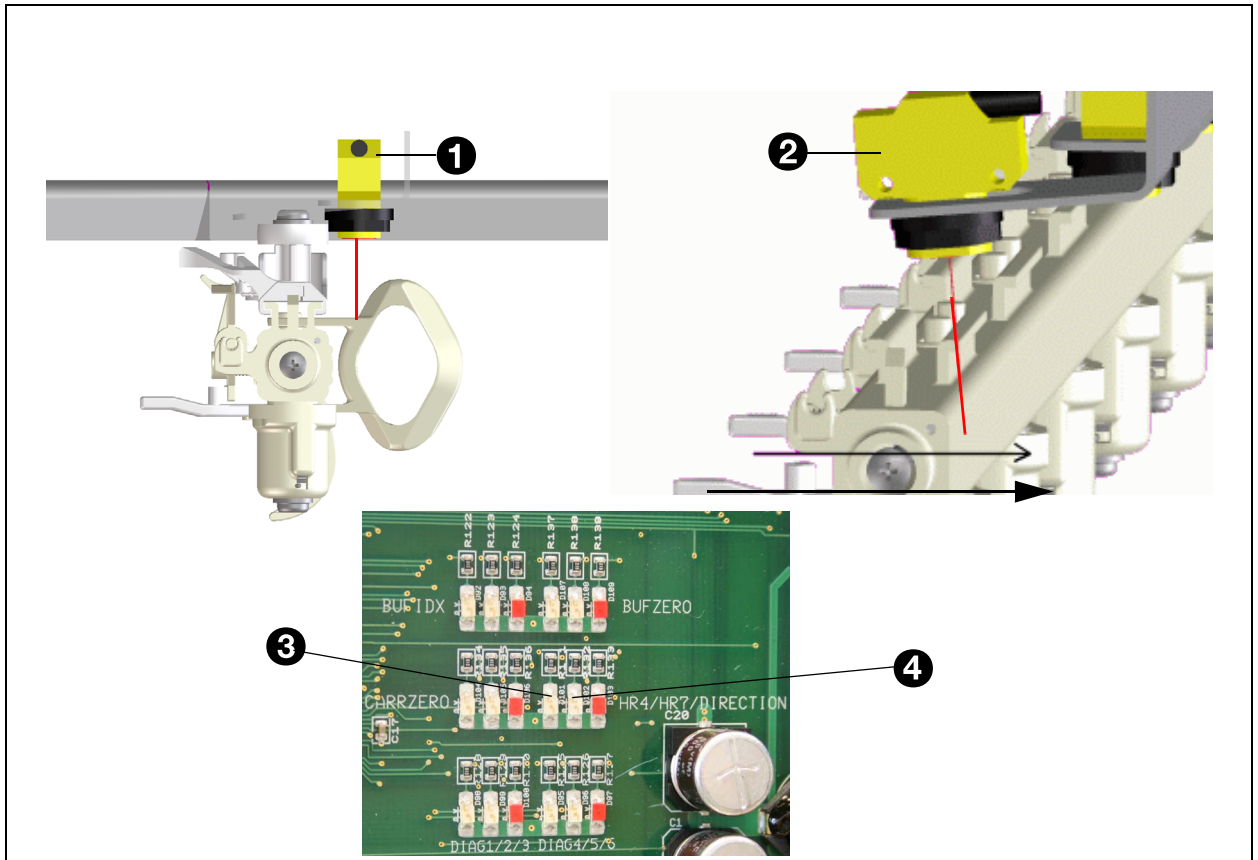

Fig. 142 - Adjustment of the end check
2. Turn the machine by hand until the D102 (4) HiRes 7 green LED lights. See fig. 142.
4. Position the beam with the sensors (1) so that the beam falls on the transition of the arm to the holder of an open carrier. See fig. 142.
5. Adjust the "Extra" sensor (2) so that it just switches on the underlying carrier bridge. See fig. 142.
6. Press switch S2 (1) on the Main timing circuit board MPS97 until LED D111 (2) goes out.
2. Turn the machine by hand until the D101 (3) HiRes 4 green LED lights. See fig. 142.